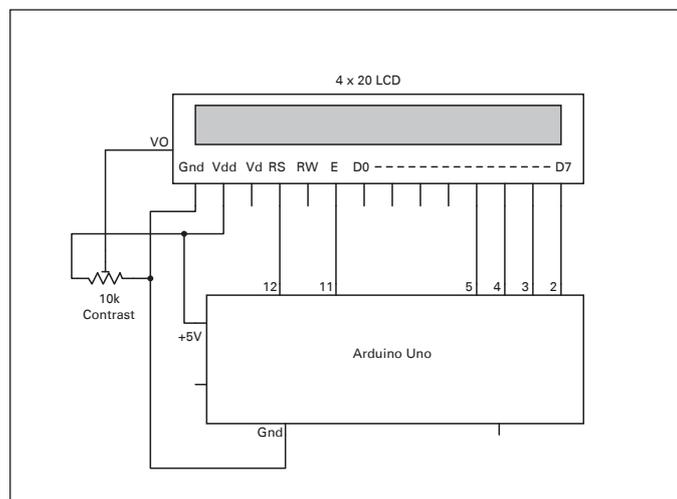

Fig. 2: Connecting an LCD to the Uno.
The basic connection method is shown in Fig. 2 and uses nine connection wires. An alternative and simpler connection system is to use an Adafruit LCD Backpack. These neat devices plug into the back of the LCD unit and use only two data connections plus the power supply and employ the I2C signalling protocol to communicate between the Uno and the LCD. I've shown the diagram in Fig. 3.
The Arduino LiquidCrystal library is included in the standard IDE and is fine if you're using the multi-line connection systems shown in Fig. 2. However, if you're using the Adafruit LCD backpack, you will
In this case, the (0) tells the library that we’re using an I2C connection. If you’re using the seven-wire system shown in Fig. 2, the line changes to: